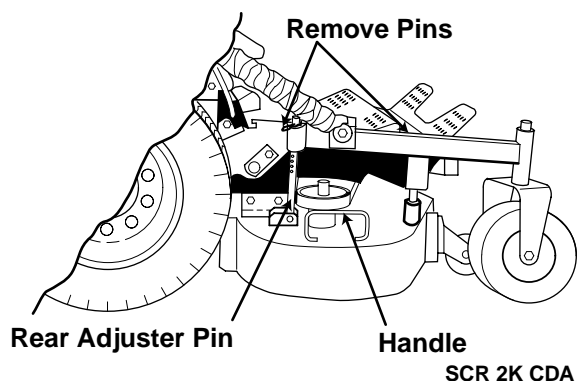

Figure 6-8 Cutter Deck Adjustment
2. Remove the hairpins from the adjusting pins on one side of the cutter deck. (See Figure 6-8).
3. Lift or lower the deck to the desired cutting height by using the handles supplied on the cutter deck. (See Figure 6-8). Reinstall the hairpins at the desired cutting height. A deck height decal is located on the deck mounting frame as an aid in adjusting the deck to the desired height.